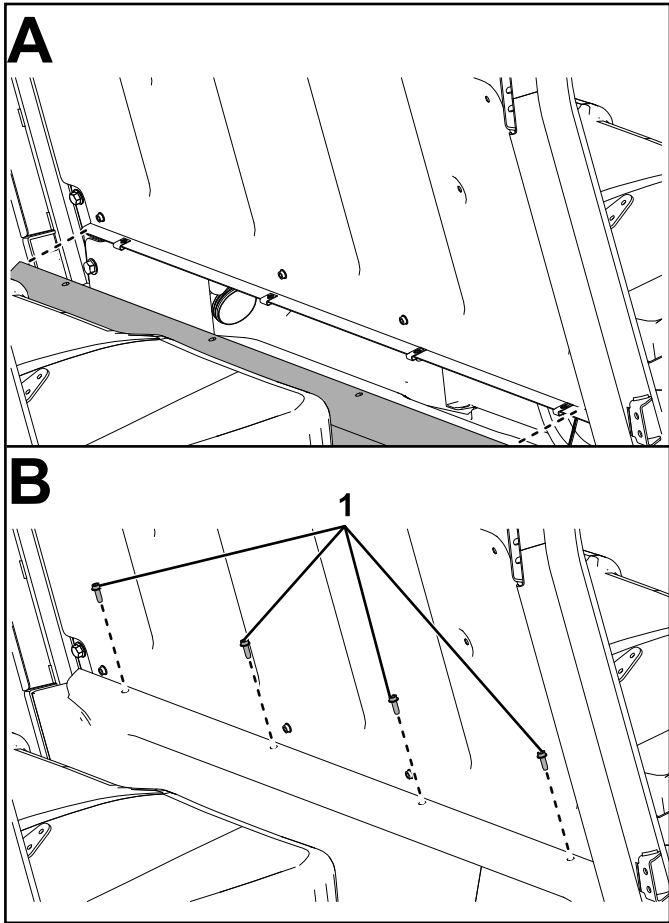

**Figure 49**
22. Install the 4 clips (1/4 inch) to the middle seat panel (Figure 49).